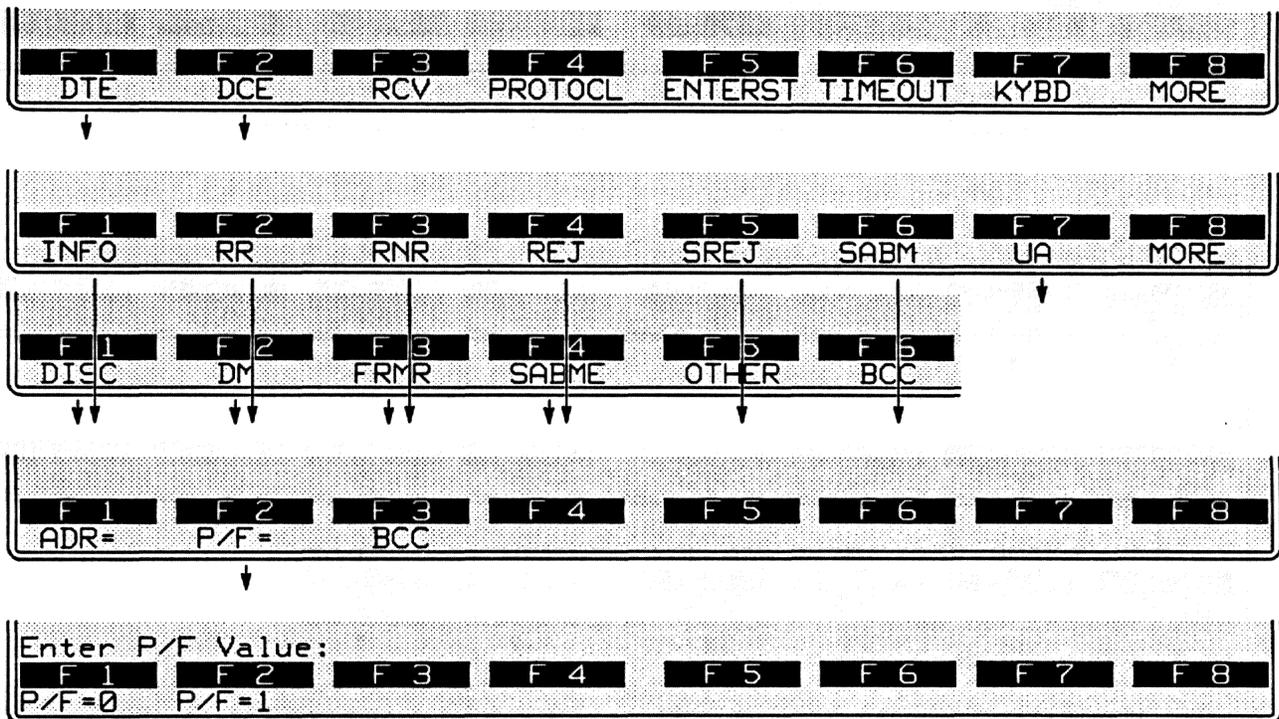

Figure 33-12 The value of the P/F bit may be chosen as a condition.
6. *Poll/final bit*. P/F conditions are optional for all frame types. P/F values of 0 or 1 are entered by the softkey sequence in Figure 33-12.
Press **DONE** to bypass the P/F= condition and the other conditions on the same softkey level in Figure 33-12.